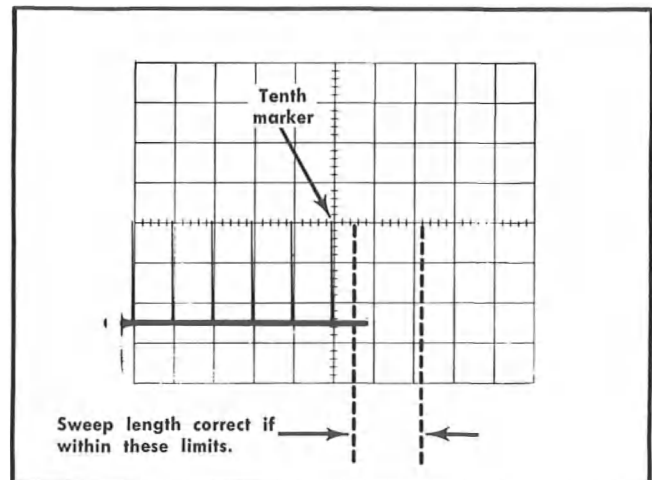

Fig. 5-24. Typical CRT display when checking sweep length.
a. Position the tenth marker to the center vertical line with the horizontal POSITION control (see Fig. 5-24).
b. CHECK—Sweep length between 10.4 and 12.1 divisions as shown by 0.4 to 2.1 divisions of display to the right of the center vertical line (see Fig. 5-24).